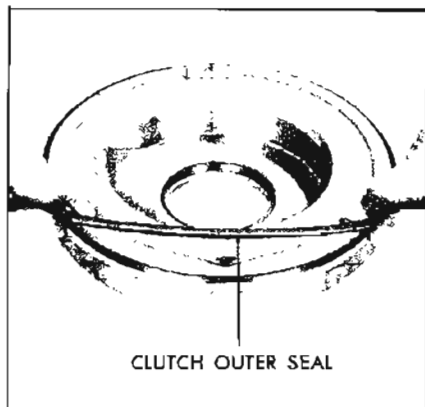

Figure 5-635
2. Install a new outer clutch piston seal. See Figure 5-635.